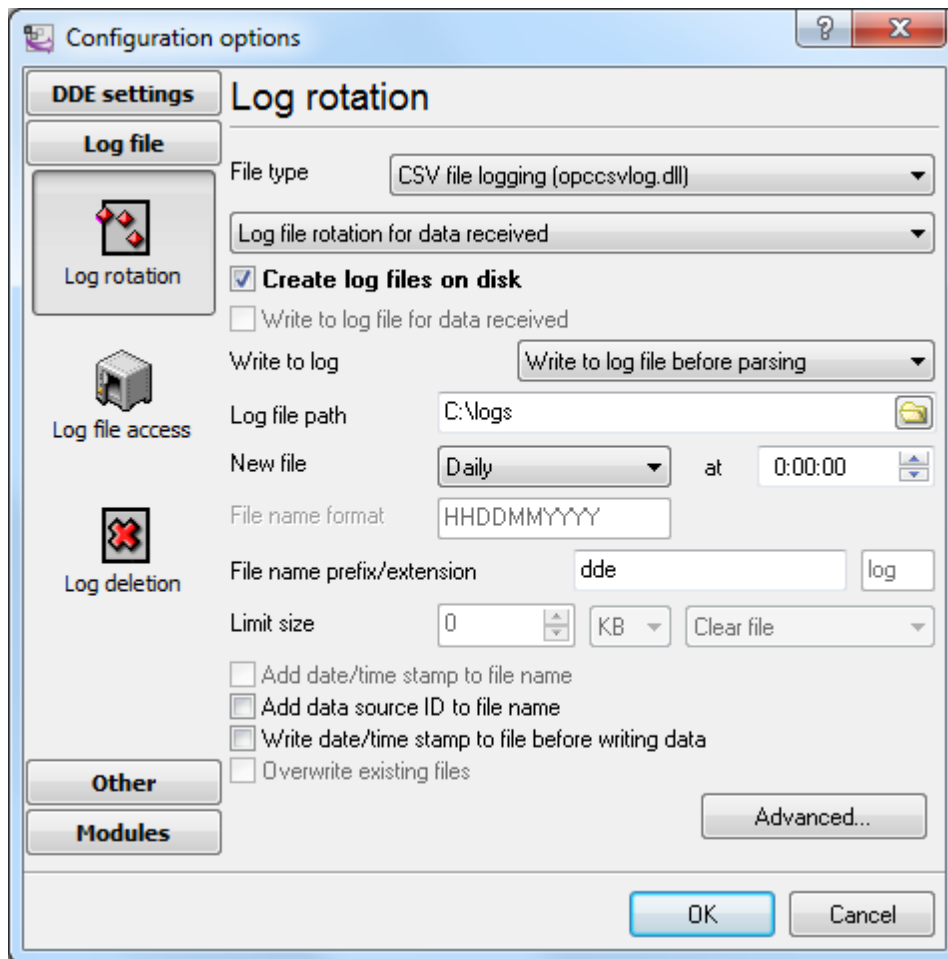

Fig. 1 Configuring the log file
2. Enable writing the received data to a log file of the CSV format (fig. 1). By default, the program generates files in the Excel format. You can customize the format of the CSV file if you click the "Advanced" button.